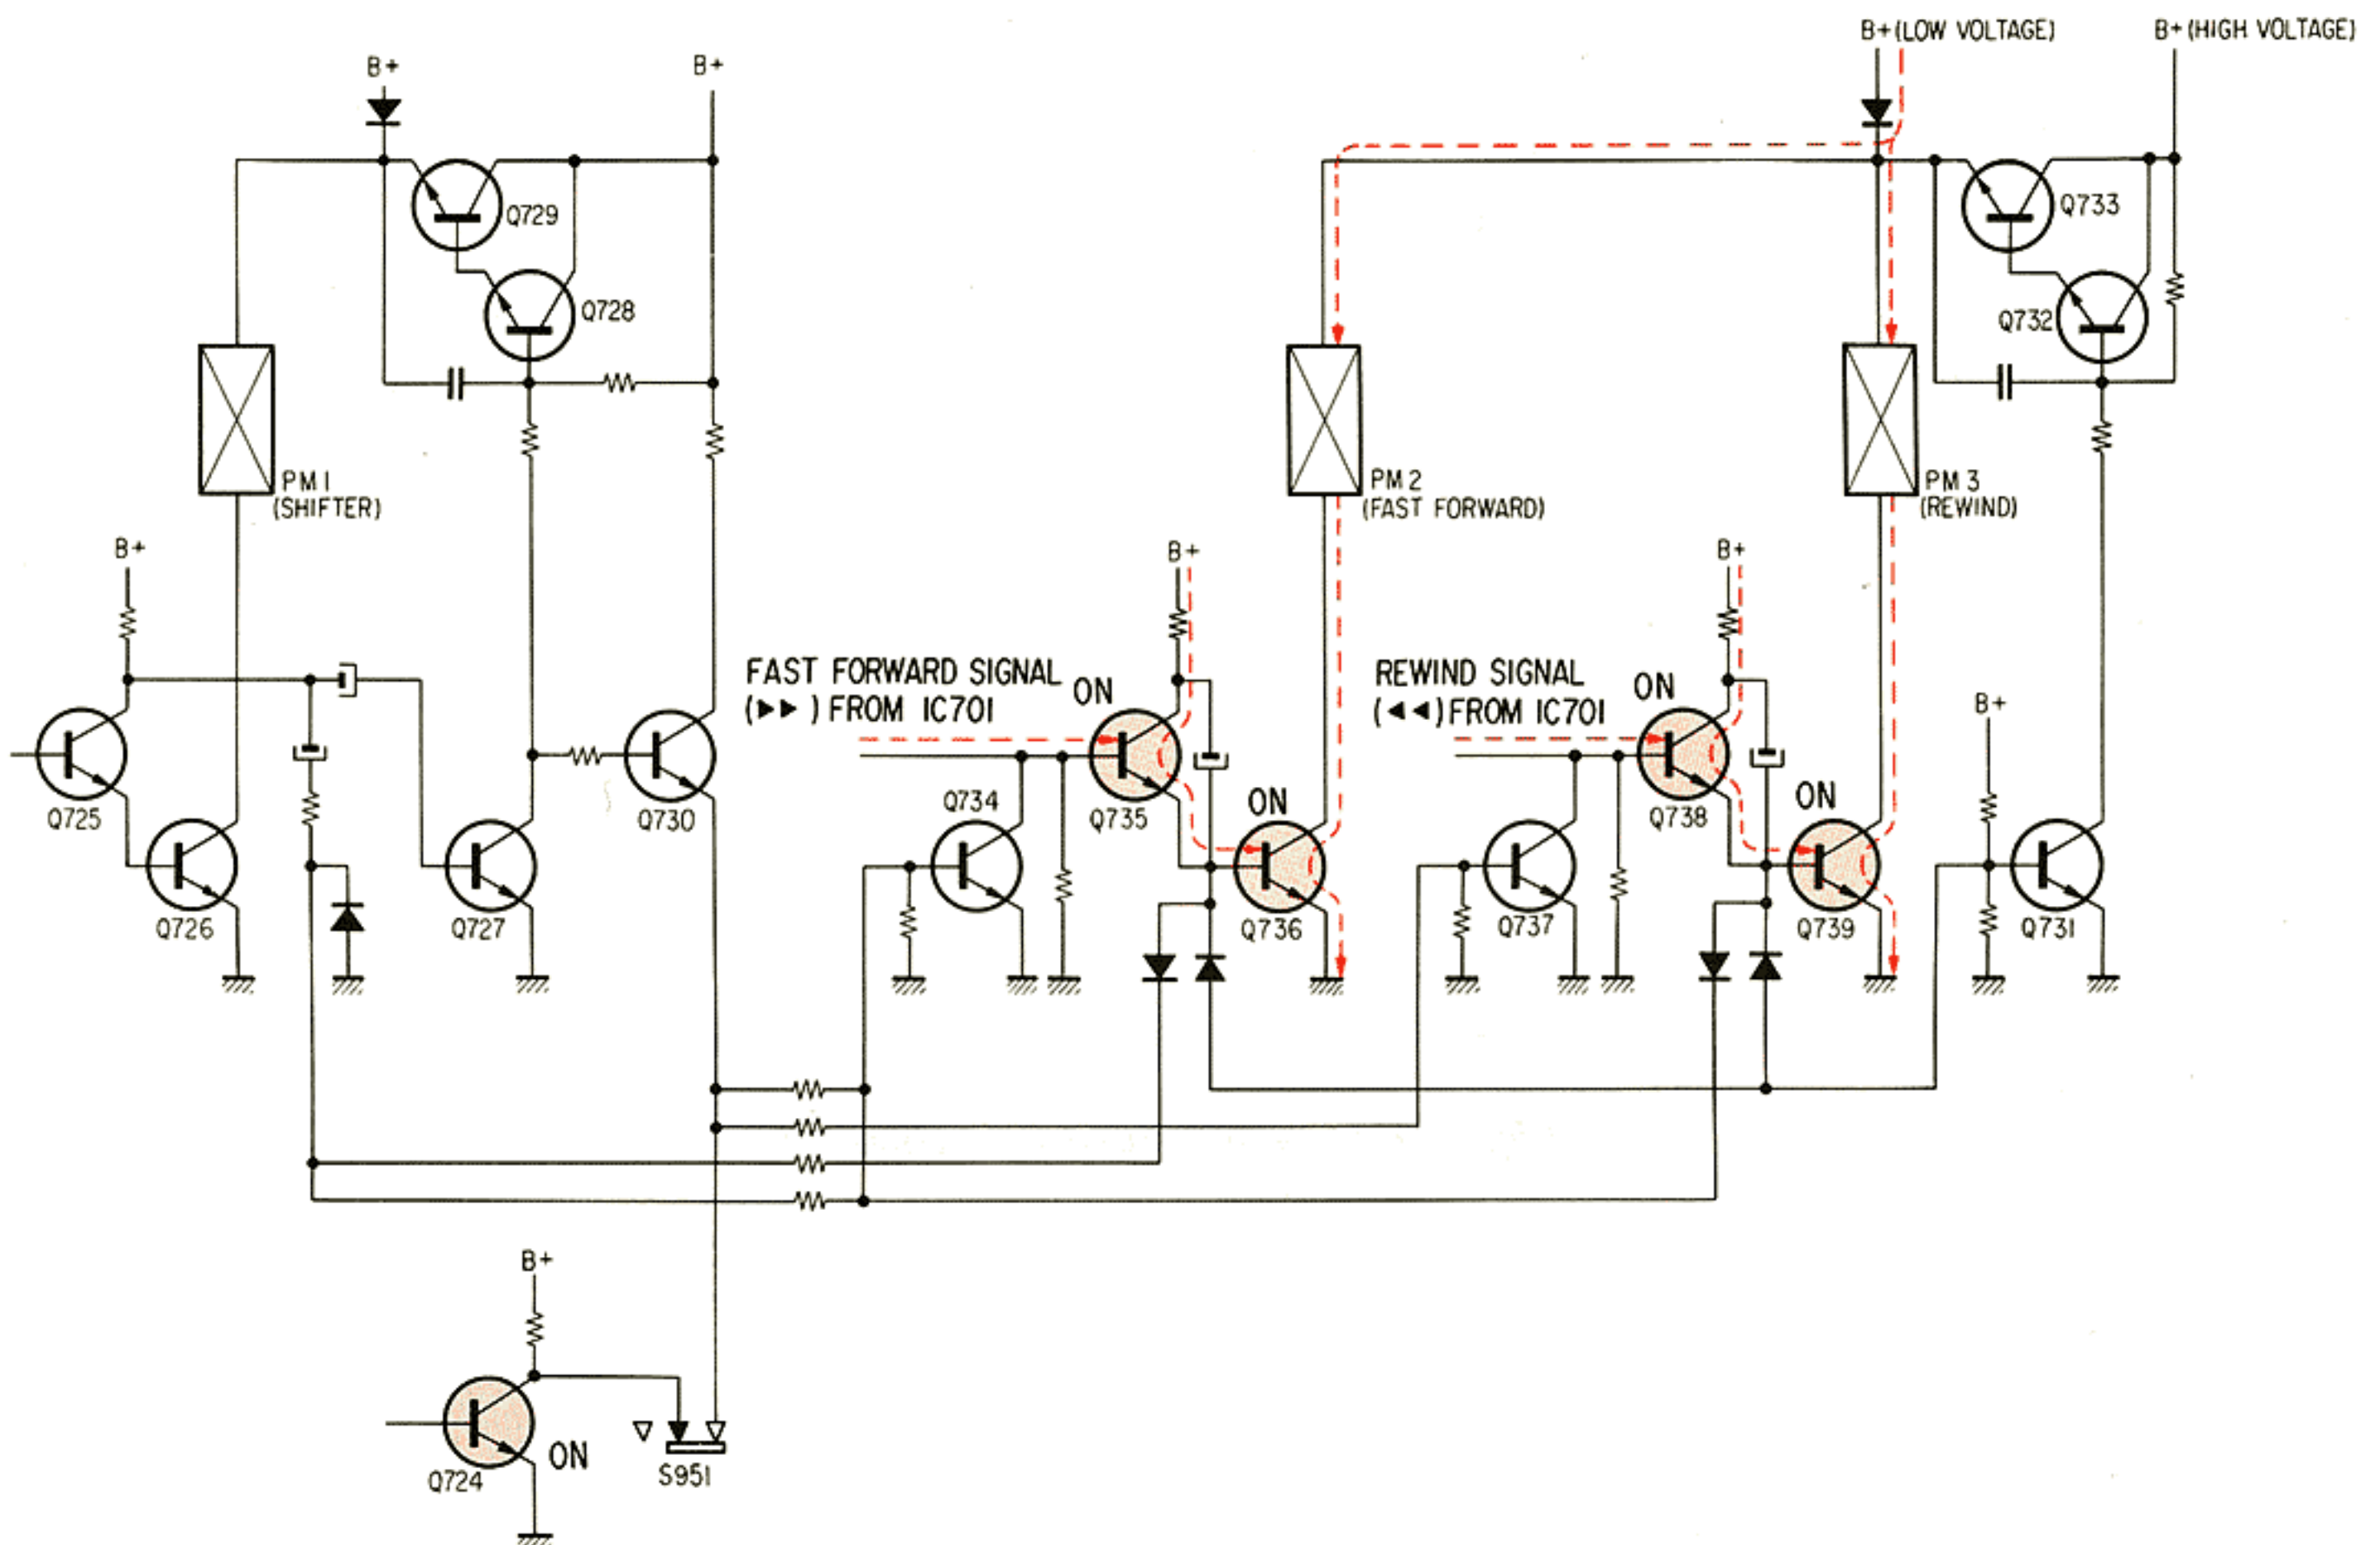

Fig. 1-4 Fast Forward or Rewind Mode
2. STOP mode → fast forward or rewind mode (energized PM2 or PM3) (See Fig. 1-4)